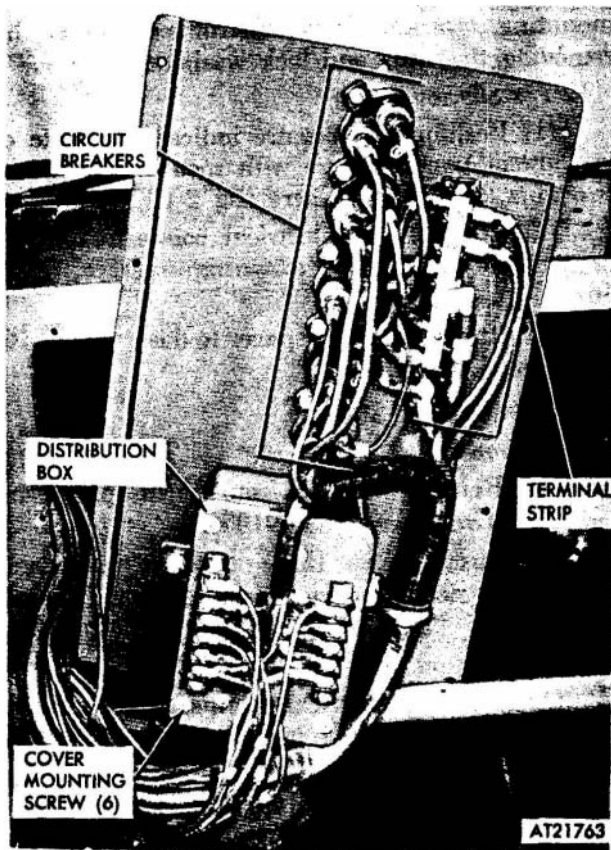

Figure 2-110. Terminal strip and circuit breakers.
(2) Remove panel from dash by removing ten screws. Tilt panel outward to gain access to circuit breakers (fig 2-110).
(3) Determine circuit breaker to be replaced and disconnect electrical leads (fig 2-110).
(4) Remove circuit breaker from panel by removing two mounting screws, lock washers, and nuts.
(1) Attach circuit breaker to panel with two mounting screws, lock washers, and nuts (fig 2-110).
(1) Disconnect negative (-) battery cable and remove circuit breaker from panel (refer to a above).
(2) Refer to figure 2-110 for circuit breaker location and overhaul schematic wiring diagram (fig 2-46) for code letters and wire numbers.
(3) Use a multimeter set on low ohm scale, test from terminal lead (fig 2-110) to bus-bar for continuity. Replace a circuit breaker that fails to indicate continuity.
(b) Remove panel from dash by removing ten screws located around perimeter. Tilt panel outward to gain access to terminal strip (fig 2-110).
(c) Disconnect wires and remove bus bar from terminal strip by removing nuts and washers (fig 2-110).
(a) Attach terminal strip to panel with three screws and nuts (fig 2-110).
(b) Remove distribution panel from dash by removing ten screws. Tilt panel outward to gain access to distribution box (fig 2-110).
(c) Disconnect all electrical leads from distribution box (fig 2-110) (refer to wiring diagram fig 2-46).
(a) Position distribution box on panel and secure with two screws, washers, and nuts (fig 2-110).
(1) Remove distribution panel from dash by removing ten screws. Tilt panel outward to gain access to distribution box (fig 2-110).
(2) Disconnect directional signal control leads from distribution box (**fig 2-110**). (Refer to wiring diagram **fig 2-46**).